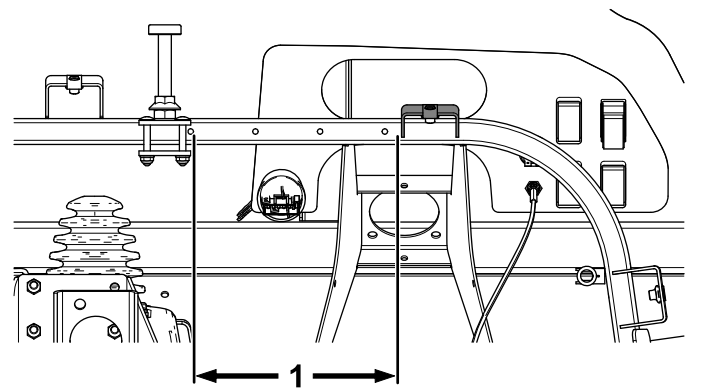

Figure 35
1. Measure 20.7 cm (8-1/8 inches) to the left from the bottom edge of the hood bracket and mark the location (Figure 35).